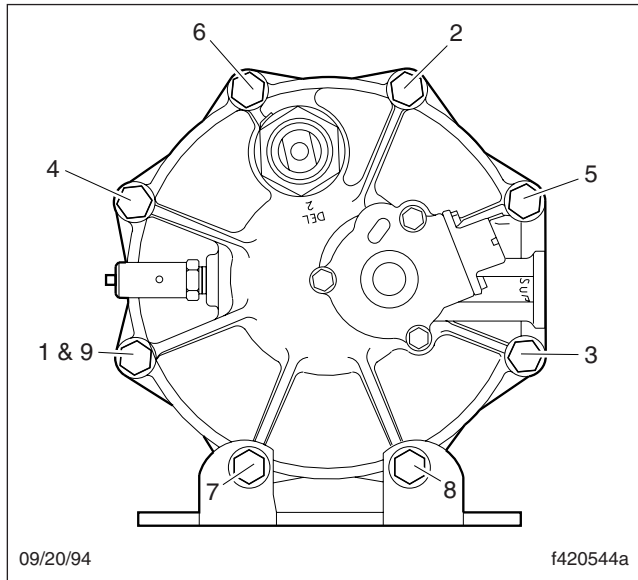

Fig. 2, AD-9 End Cover to Housing Torque Pattern
16. Install the 6 bolts, 12 washers, and 6 new Nylok nuts. Torque the Nylok nuts in a star pattern 17 to 24 lbf-ft (23 to 33 N-m). See Fig. 2.